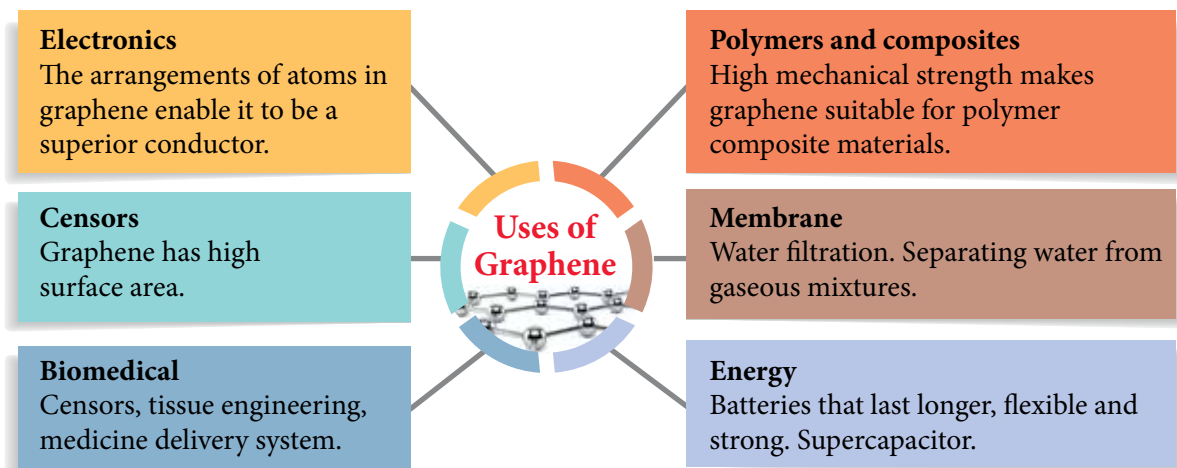

Figure 5.22 The uses of graphene in various fields
- The discovery of graphene has opened a new chapter in the field of nanotechnology. Numerous readily available applications can be improved or replaced with graphene that has superior and distinctive characteristics. Uses of graphene in various fields are shown in Figure 5.22.